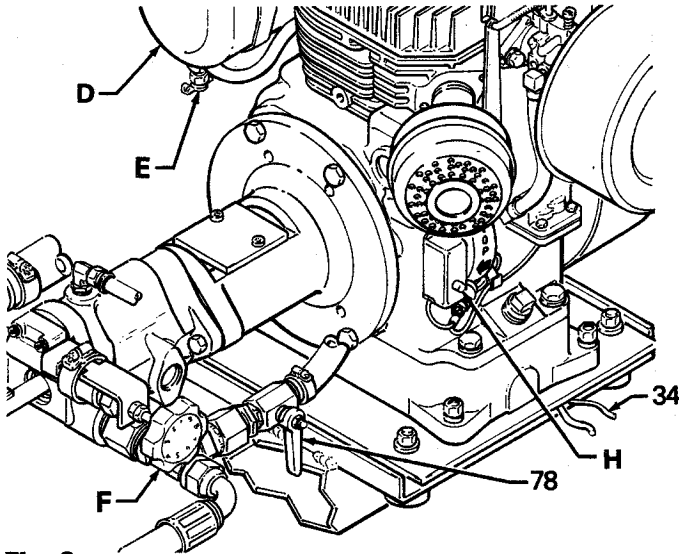
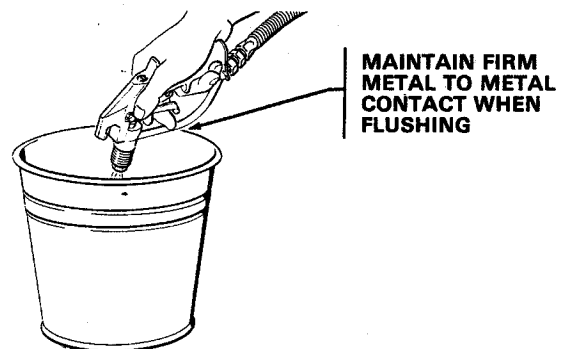

Fig 3
Fig 5
Open the bypass valve (78) and the fuel cock (E). The bypass valve is open when the lever is parallel to the body of the valve. The fuel cock is open when it is screwed out as far as it will go. See Fig 3.
Lower the foot brace (26) by disengaging it from the hitch (34). See Fig 3 and the Parts Drawing.
After the engine has warmed up, gradually open the choke lever (G) and close the bypass valve (78). See Figs 3 and 4. Raise the foot brace and engage the hitch.
Open the bypass valve (78) and depress the stop button (H), holding the button down until the engine stops. Close the fuel cock (E). See Fig 3.
3. Be sure the bypass valve (78) and fuel cock (E) are open. Turn the pressure control knob (F) all the way counterclockwise to keep pump from operating. See Fig 3. Start the engine.
4. Close the bypass valve (78). Point the gun into a metal waste container, holding a metal part of the gun firmly against the metal pail. See Fig 5. Squeeze the trigger. At the same time, slowly turn the pressure control knob (F) clockwise just enough to operate the pump. Refer to Fig 3. Always use the lowest possible pressure when flushing the unit. Operate the pump until clean solvent comes from the gun. Then release the trigger and engage the trigger safety.
Place the pump or the suction tube into the material supply container. Install a spray tip in the gun (see the gun instruction manual), and start the engine. Trigger the gun into a metal waste container, holding a metal part of the gun firmly against the metal container. Refer to Fig 5. Hold the gun trigger open until all air is forced out of the system. Release the trigger, engage the trigger safety, and let the pump stall.